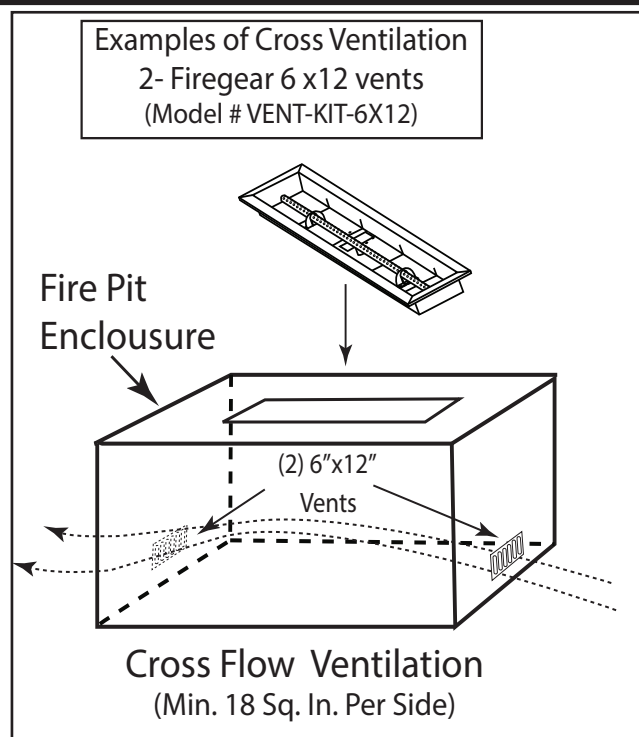

Fig. 4 Cross ventilation example
Fire pits are subjected to many outdoor elements such as rain, snow, wind, heat or cold. **A minimum of 18 square inches (two opposite sides) of cross ventilation is required to keep the components in good working order.** Use Fig. 4 as guide to assist to incorporate proper ventilation.
6. **CAUTION: A minimum of 18 square inches of cross ventilation (opposite side) is required to keep the enclosure dry. See Fig. 4.**